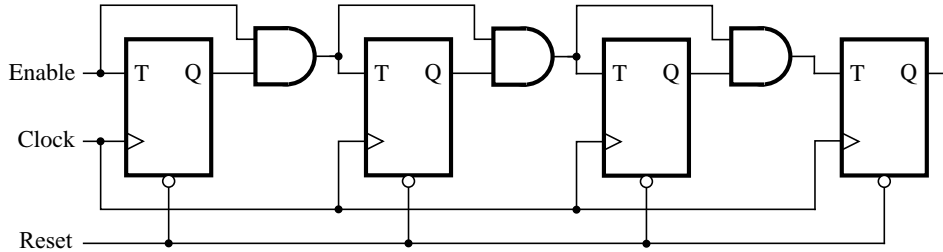

Figure 8. A 4-bit counter.
Consider the circuit in Figure 8. It is a 4-bit synchronous counter which uses four T-type flip-flops. The counter increments its count on each positive edge of the clock if the Enable signal is asserted. The counter is reset to 0 by using the Reset signal. You are to implement a 16-bit counter of this type.
1. Write a Verilog file that defines a 16-bit counter by using the structure depicted in Figure 8, and compile the circuit. How many logic elements (LEs) are used to implement your circuit? What is the maximum frequency, F_{max} , at which your circuit can be operated?
5. Implement a 4-bit version of your circuit and use the Quartus II RTL Viewer to see how Quartus II software synthesized your circuit. What are the differences in comparison with Figure 8?